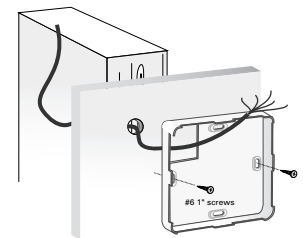

Figure 2:
3. Mount the base directly to the wall using two #6 1-inch screws. (See **Figure 2.**)